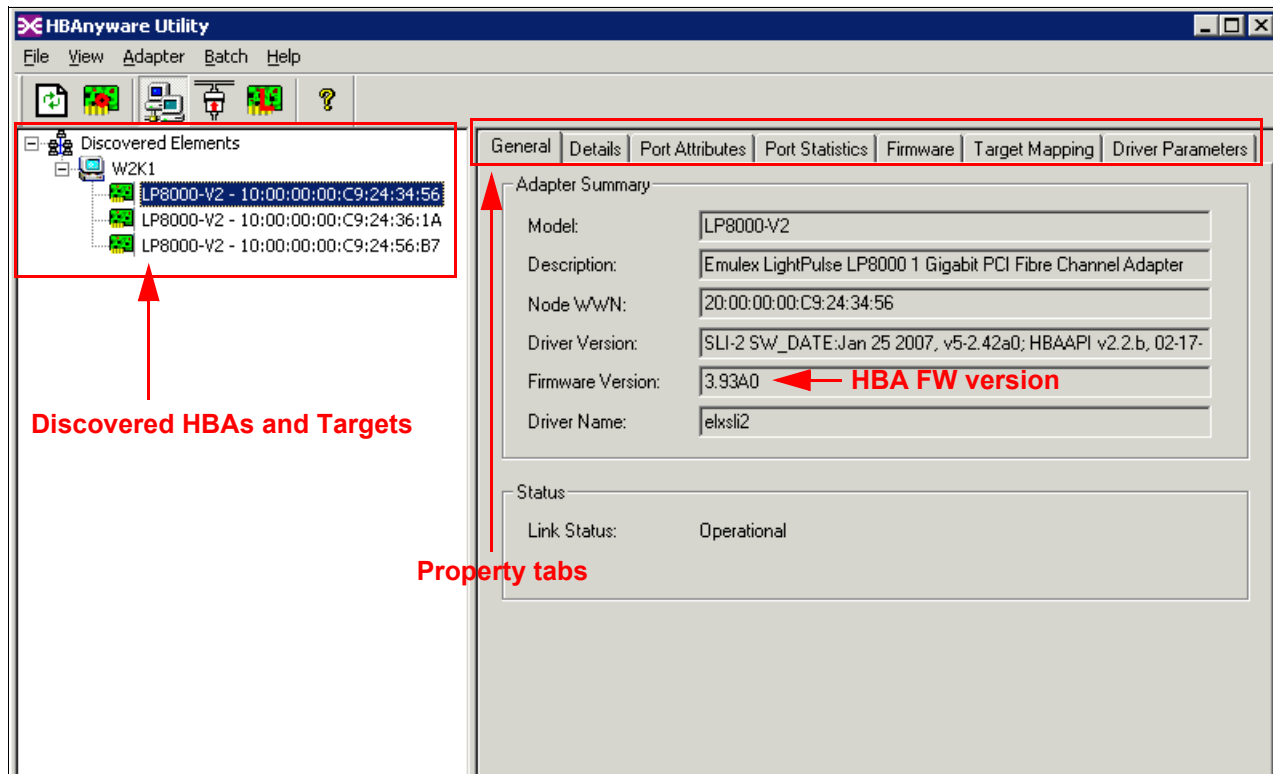

Figure 5-114 HBAAnyware Utility main window
2. The initial discovery information for the host appears, as shown in Figure 5-114 on page 426.